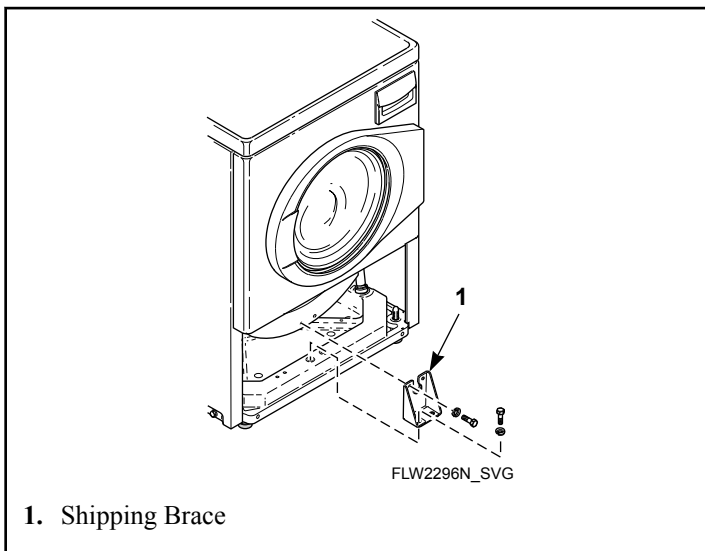

Figure 24
4. Attach shipping brace to weight and base using four bolts and washers. Refer to *Figure 24*.